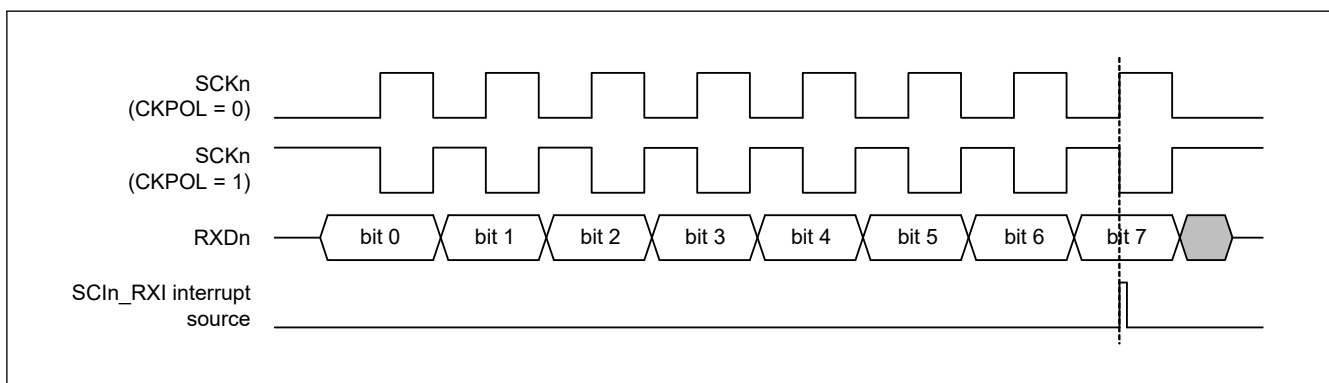

Figure 27.105 Timing of SCIn\_RXI interrupt in simple SPI mode with clock delay
- For the clock delay setting (SPMR.CKPH bit is 1), the receive data full interrupt (SCIn\_RXI) is generated before the final clock edge on the SCKn pin as indicated in Figure 27.105. If the TE and RE bits in the SCR register become 0 before the final edge of the clock signal on the SCKn pin, the SCKn pin is placed in the high-impedance state, so the width of the last clock pulse of the transfer clock is shortened. Additionally, an SCIn\_RXI interrupt might lead to the input signal on the SSn pin of a connected slave going to the high level before the final edge of the clock signal on the SCKn pin, leading to incorrect operation of the slave.